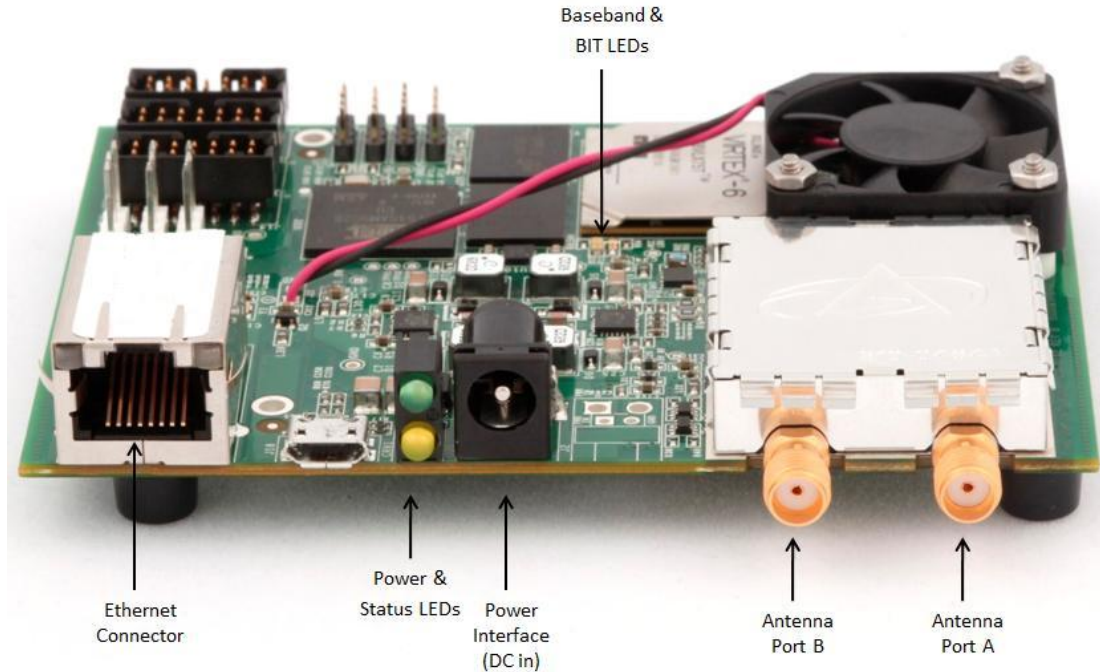

Fig. 1: Side View of the P400 RCM Displaying Connections
2. Attach the Broadspec antenna to the SMA port “A” (the one nearest the corner of the board; see Fig. 1). This is the default antenna connection. The Broadspec antenna is omnidirectional.
4. Connect the power supply to the power interface (Fig. 1) by firmly pushing the power connector until it snaps into place. To disconnect the power supply from the power interface, pull the power connector from the power interface.